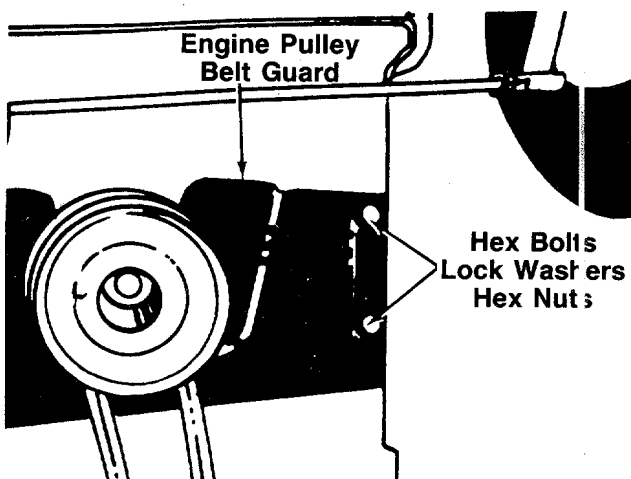

FIGURE 20.
Figures 20 through 22 are shown with the unit tipped up for clarity. It is not necessary to tip the unit to remove the belts.
5. Remove the two bolts, lock washers and nuts on each side of the frame which hold the engine pulley belt guard to the frame. See figure 20.